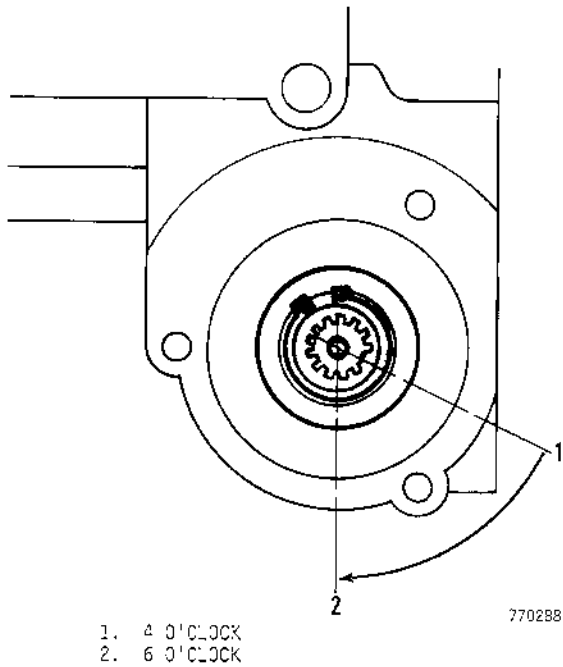

Figure 169
11. Turn the engine crankshaft slowly until the front cylinder inlet valve closes. Install the engine oil pump and injection pump drive. The engine oil pump and injection pump drive must be timed by starting the teeth meshing into the camshaft at a 4 o'clock position, Figure 169. As the drive is pushed fully into the engine block, the master spline will be between the 6 o'clock position and the 7 o'clock position.